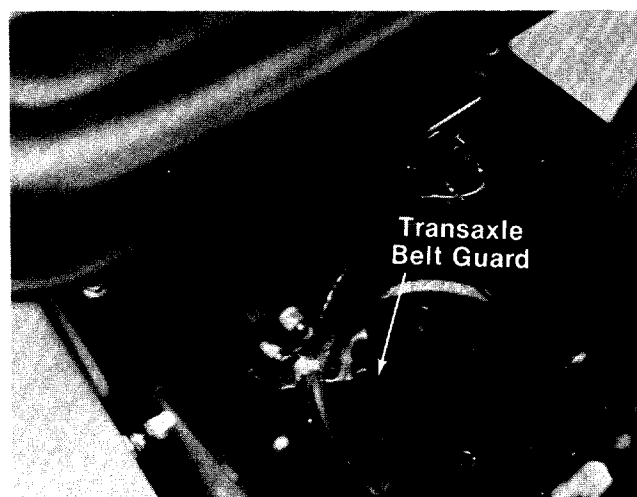

FIGURE 33.
7. Slide the transaxle belt guard back. Remove the belt from the engine pulley. Lift the belt up and over the transaxle pulley. See figure 33.